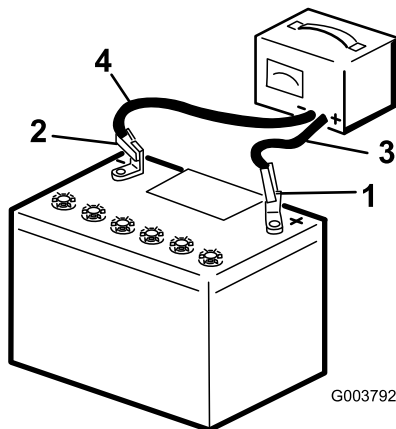

Figure 66
3. Connect the positive lead of the battery charger to the positive battery post (Figure 66).
4. Connect the negative lead of the battery charger to the negative-battery post (Figure 66).
6. When the battery is fully charged, unplug the charger from the electrical source, then disconnect the charger leads from the battery posts (Figure 66).